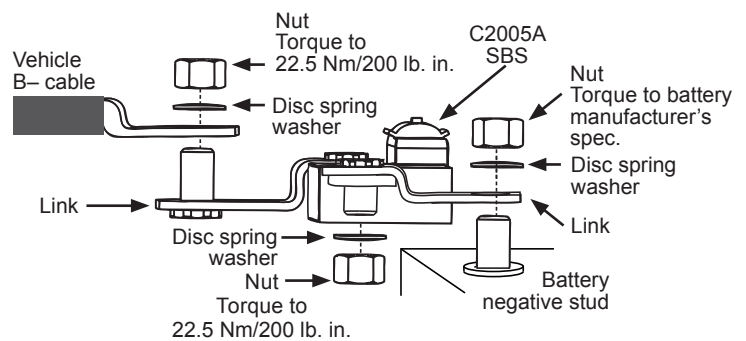

Figure 4: Typical A9-2023 Links Kit Installation
- Fasten small stud of link to appropriate side of C2005A sensor with disc spring washer (beveled side toward sensor terminal) and nut. Torque to 22.5 Nm/200 lb. in. See Figure 4.
- Fasten vehicle B- cable to long stud of link with disc spring washer (beveled side toward cable terminal) and nut. Torque to 22.5 Nm/200 lb. in. See Figure 4.